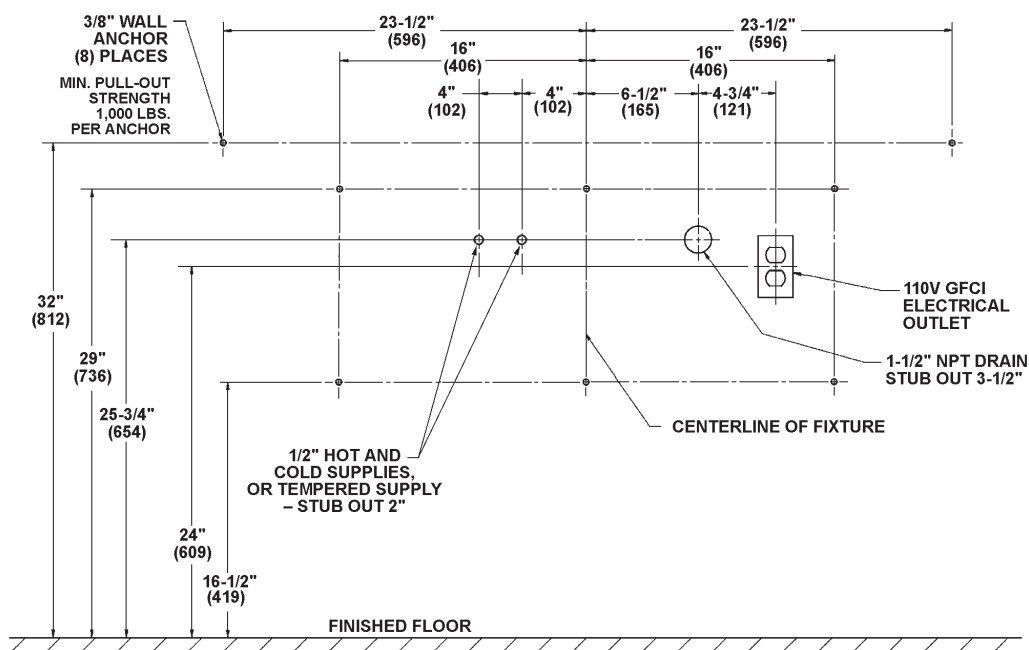
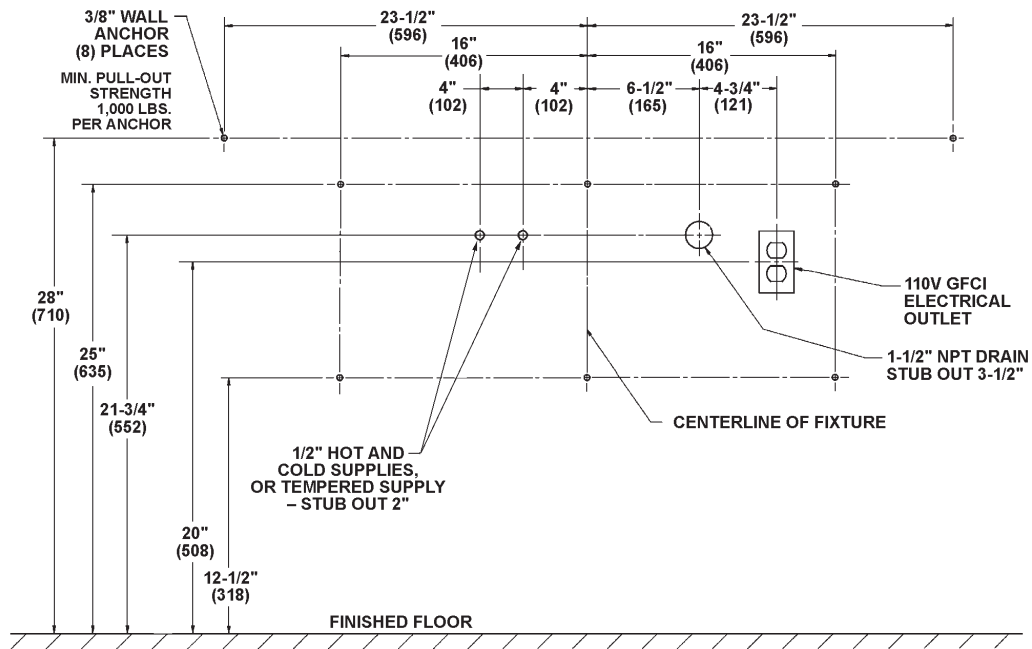

Figure 1
Figure 1a
Note: See Figure 1 below (for Standard Height) and Figure 1a on page 5 (for Juvenile Height) when roughing in the SS-2/AZ/WH97 Express®.
IMPORTANT: Dimensions shown in Figure 1 are for an SS-2/AZ/WH97 Standard Height Mounted Express® only.
4. Install eight 3/8" wall anchors with a minimum pull-out rating of 1,000 lbs. (supplied by installer) at the locations shown in Figure 1 below (or Figure 1a on page 5).